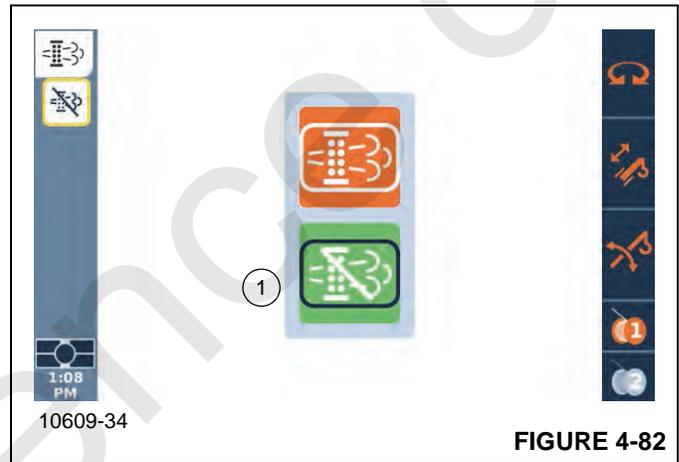

FIGURE 4-82
1. Using the Jog Dial or the Up/Down Arrow Buttons on the Navigation Control Pad, select the Inhibit Cleaning Process Icon (1, Figure 4-82) (icon changes to orange).